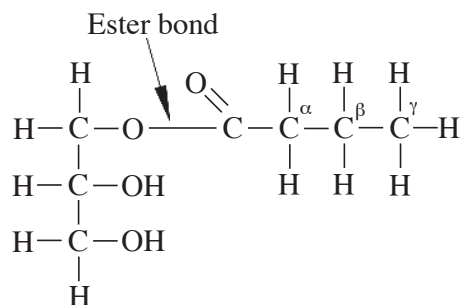

Fig. 14 A monoglyceride.
D. Before making glycerides, saturate the two unsaturated fatty acids. Then remove a hydrogen atom and the bond from one of the end oxygens of glycerol, and take off an -OH (including the bond) from one of the acids. Using the short, white tube connect the peg of the acid carbon to the peg of the oxygen on the glycerol. You have just made an ester bond in your model (represented by the short white tube), and the resulting molecule is a monoglyceride. Compare your model with the following illustration (Fig. 14), and then show the model to your instructor.